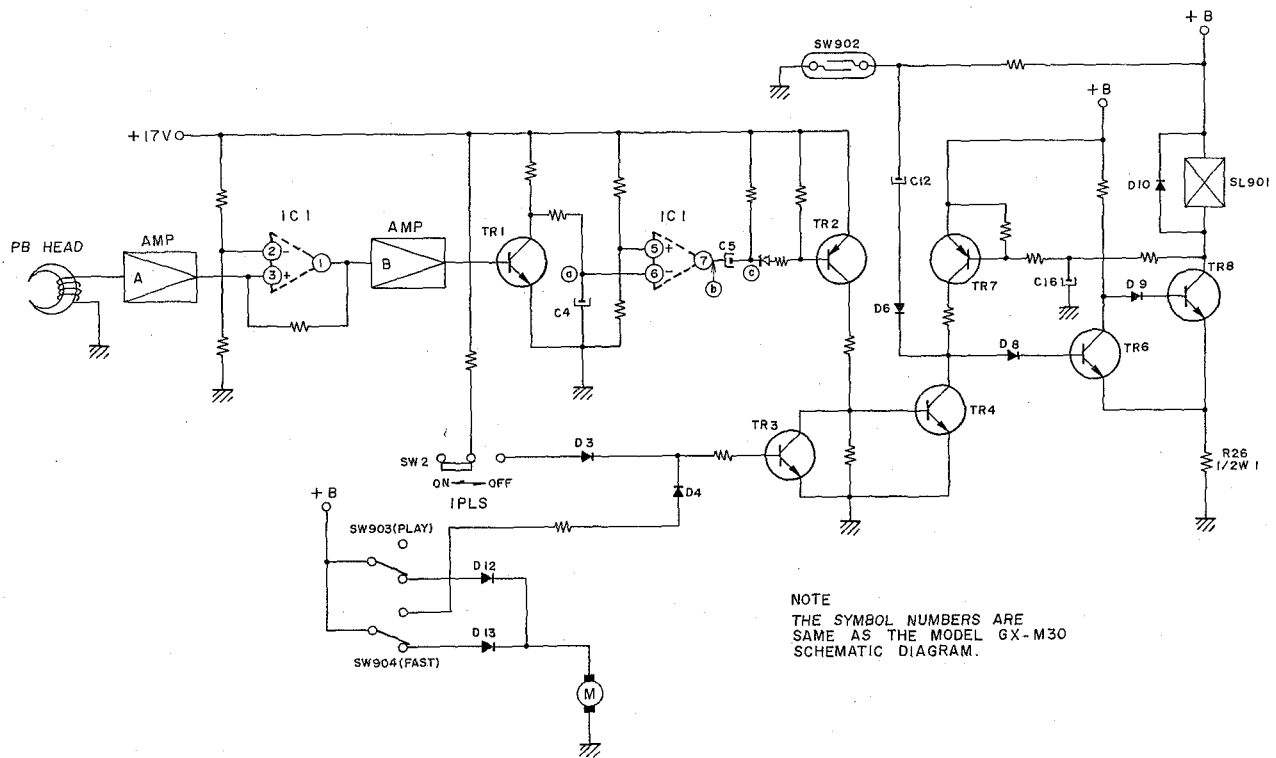

Fig. 8
2) When tape is made to travel from the portion with a signal (Refer to Figs. 8, 9)